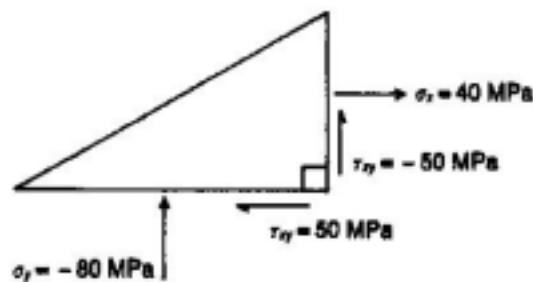

Fig.3 Stress acting at a point
3. The state of stress in a point of material is shown in Fig.3. Determine the direction and magnitudes of the principal stresses. (25%)